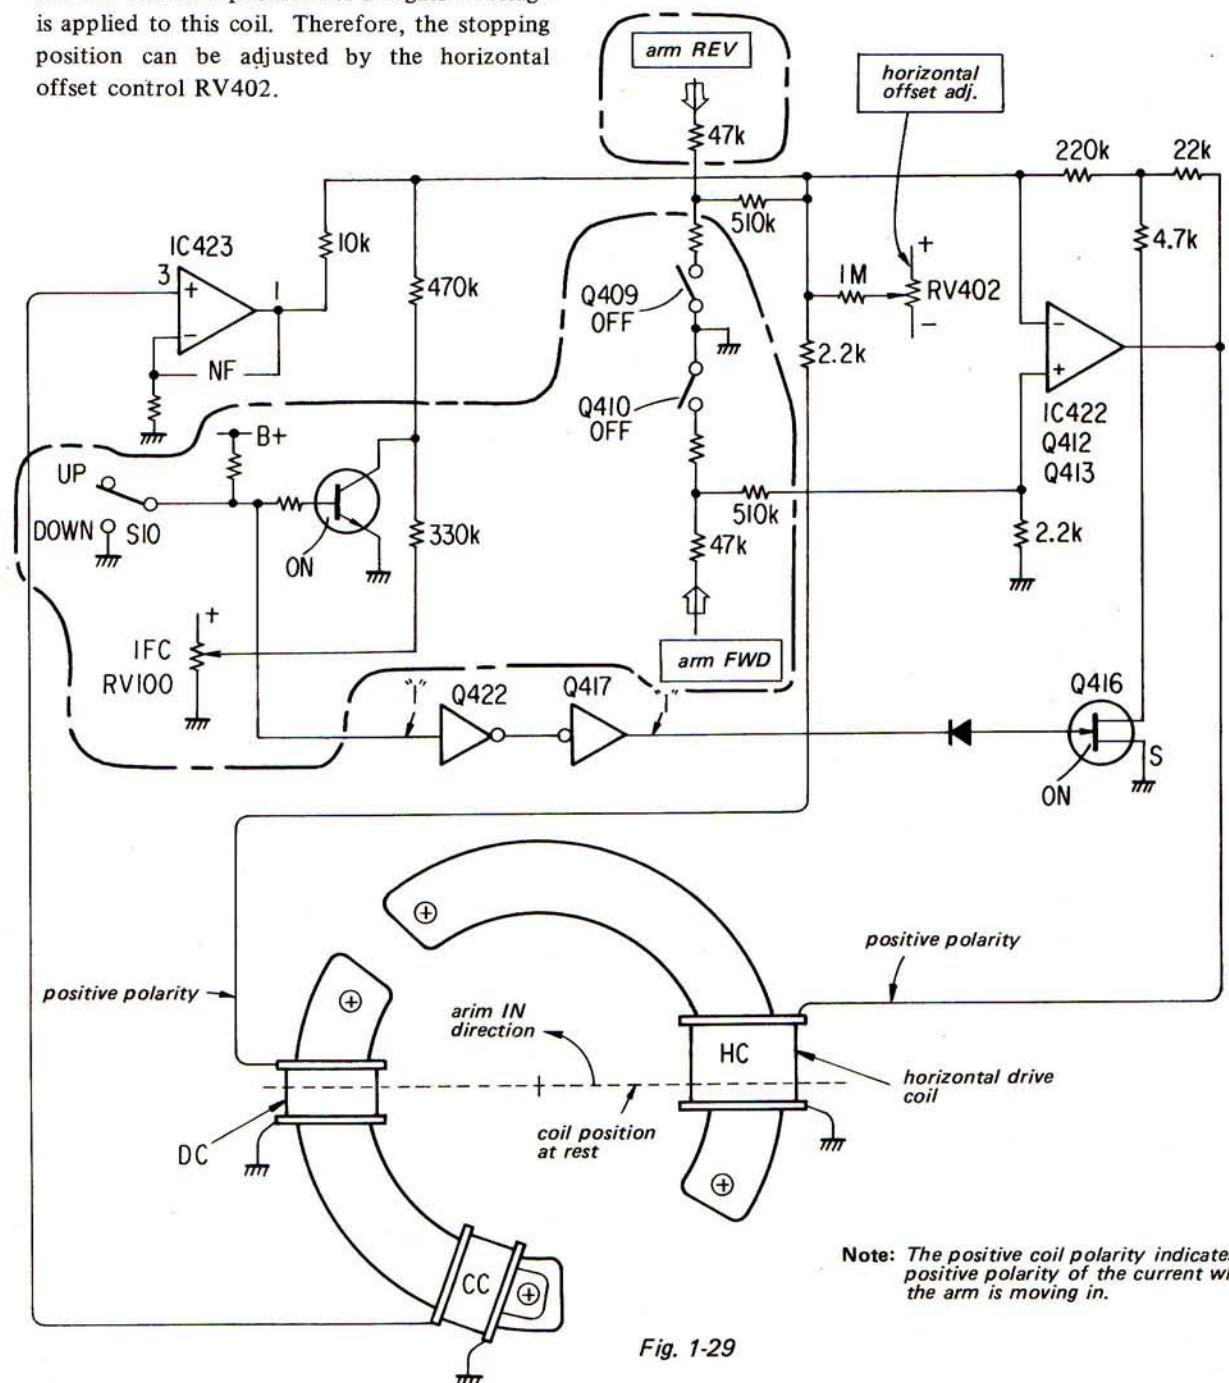

Fig. 1-29
The tonearm does not move in either direction during POWER ON because both the arm FWD and the arm REV signals would be off. This is indicated in Fig. 1-29.
As shown in Fig. 1-29, the portion enclosed within the line —— will be ignored during POWER ON because of the negative feedback (NF) provided by a coil to the high gain amplifier (IC422, Q412, Q413).